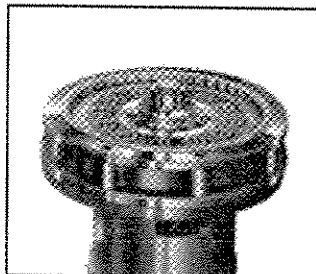

Fig. 12
4. Take out the slow speed shaft rollers, item 1-06, page 8 (Fig. 12). Check the slow speed shaft pins (1-01) to see whether any rollers have adhered to them.
8. Insert slow speed shaft rollers (Fig. 12).